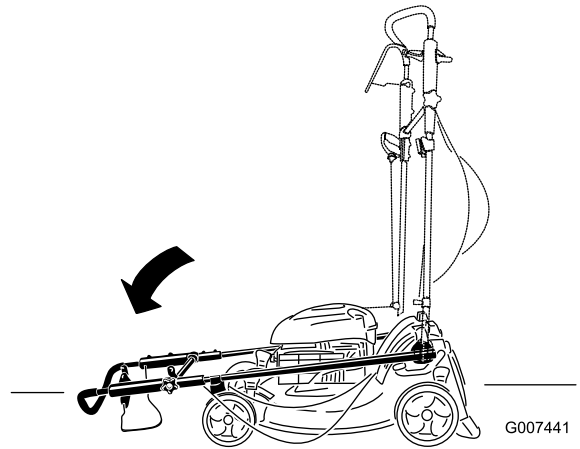

Figure 55
2. Move the handle all the way forward and loosen the upper handle knob (Figure 55).